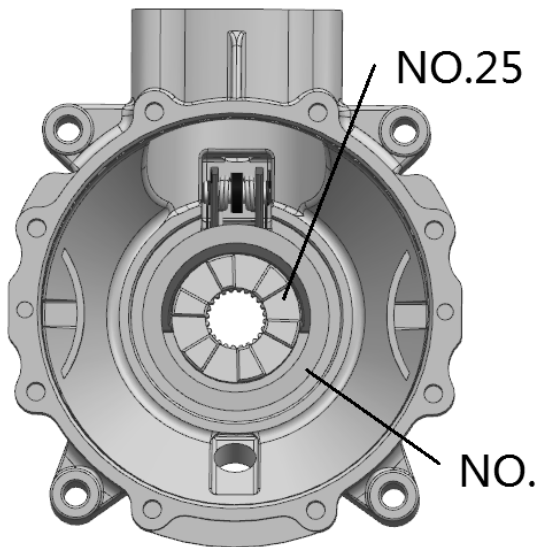

**Fig 16**
7. Install the clutch gear (NO.25) and the original shims into the gearcase. → Fig 16